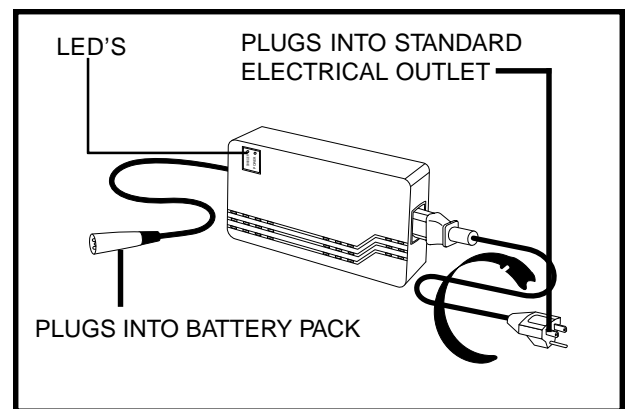

Figure 11. Off-Board Battery Charger
4. Plug the charger power cord into the charger power cord receptacle on your Travel Scooter, then into the electrical outlet. **See figure 11.** We recommend that you charge the batteries for 8 to 14 hours.